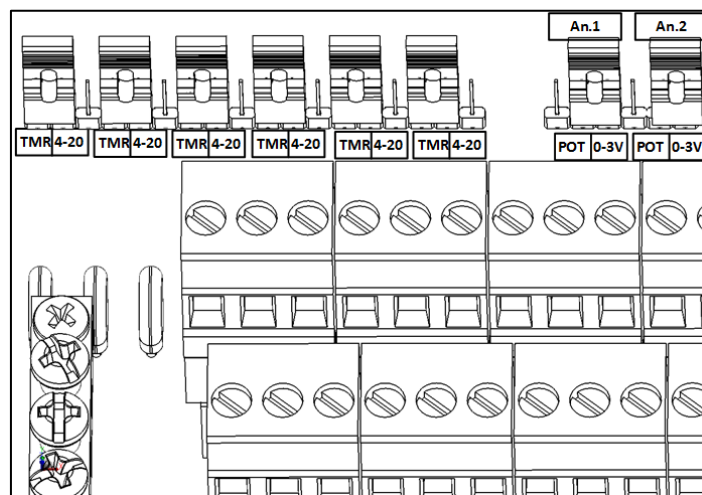

Figure 27: 2nd Humidity Sensor Jumpers
2. Place the jumper corresponding to the analog input port on 0 - 3V as shown in Figure 27.